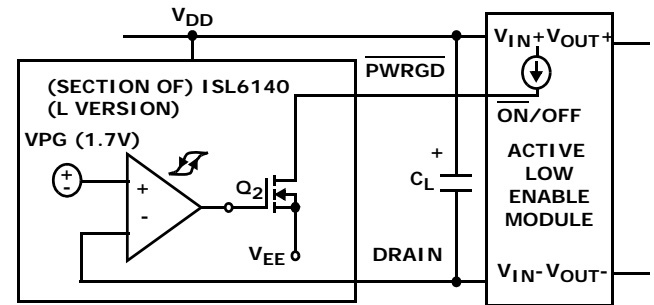

FIGURE 6. ACTIVE LOW ENABLE MODULE
**ISL6140** (L version; Figure 6): Under normal conditions ( $\text{DRAIN} < \text{VPG}$ ), the  $\text{Q}_2$  DMOS will turn on, pulling  $\overline{\text{PWRGD}}$  low, enabling the module.